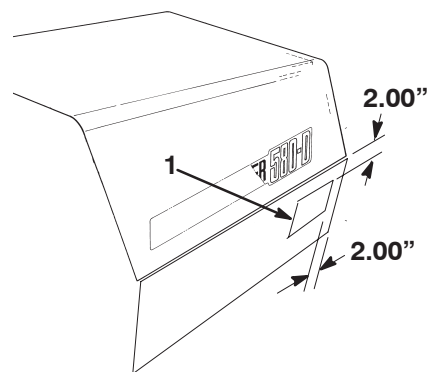

Figure 21
1. Using the dimensions shown in figure 21, locate and affix a 4 wheel drive decal to each side of machine.